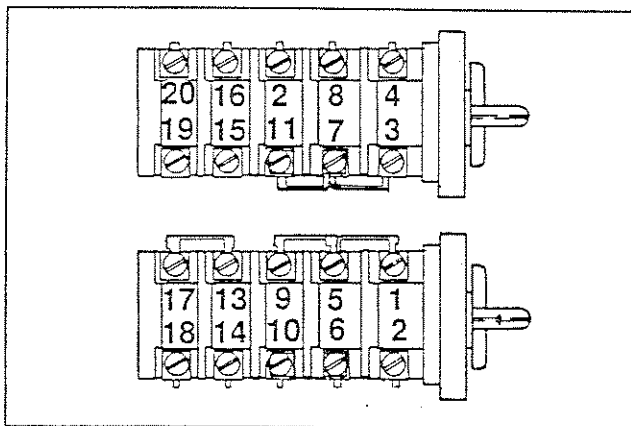

Figure 7. Voltage-Phase Selector Switch Terminals
3. See Figure 7. Connect the VOM test leads across switch terminals 14 and 13.